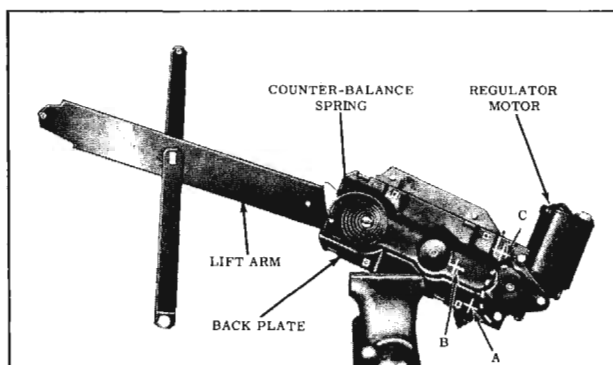

Fig. 16-295 Back Door Electric Window Regulator
- Place regulator and motor assembly in a vise. (Fig. 16-295) Drill a 1/4" hole through back plate and sector at location indicated at either A, B, or C (Fig. 16-295) depending on position of lift arm.
- Remove motor attaching bolts (Fig. 16-295) and remove motor from regulator.